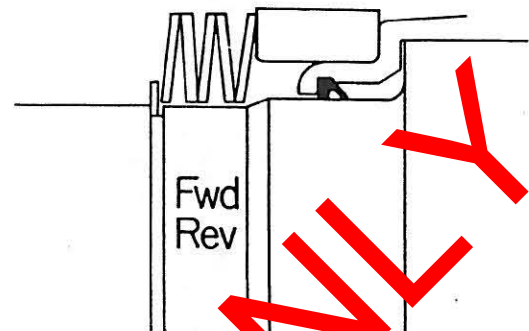

Figure 78
Install disc springs. First disc spring with larger diameter or bevel toward spacer. Alternate five (5) disc springs (see Figure 78).